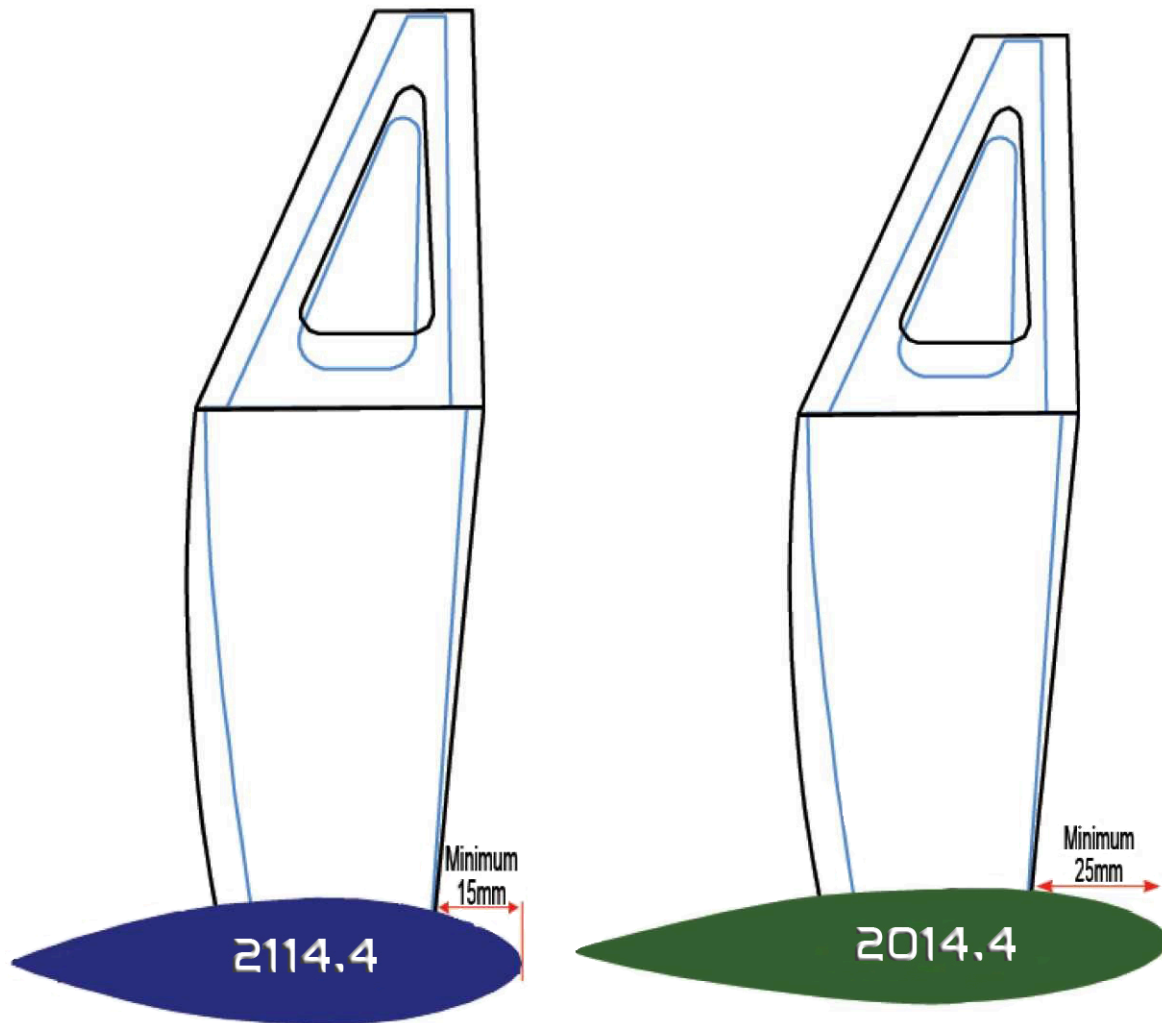

Figure 2: Positioning of Ballasts
- 3.9 The minimum-distance between the leading edge of the keel and the front of the ballast is 15mm for ballast cMM (Order No. 2114.4) and 25mm for ballast rMM (Order No. 2014.4) and ballast nMM (Order No. HCB2550x6). See figure 2.